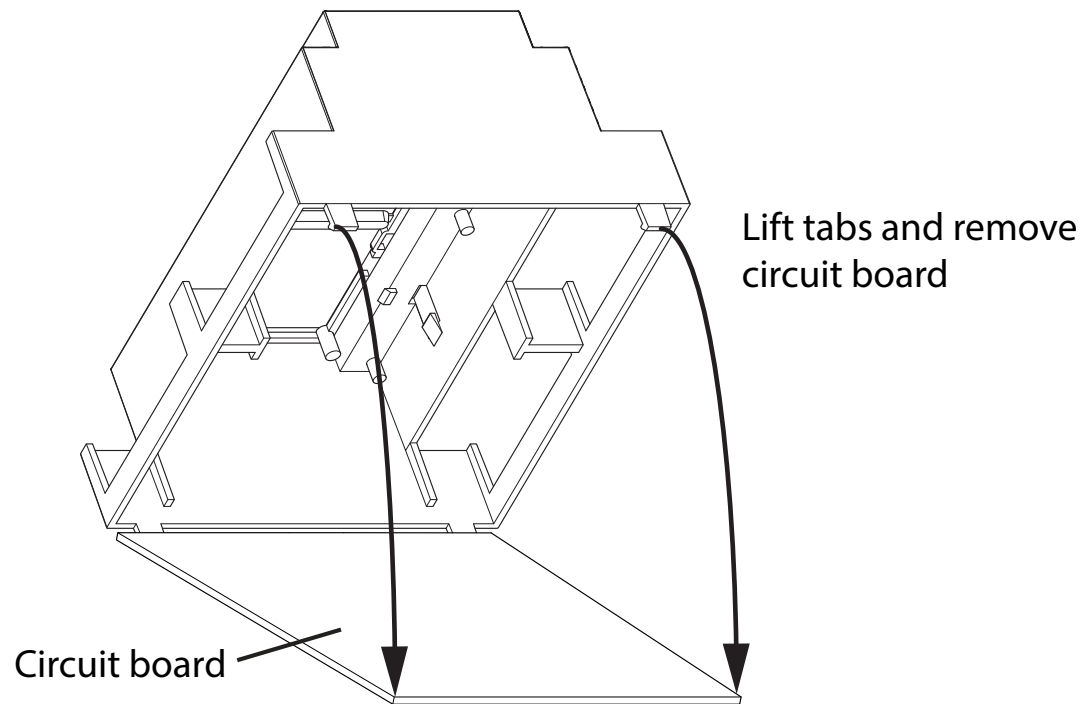

Figure 3 Lift tabs and remove circuit board
2. Hold the circuit board with one hand, and with the other hand lift the tabs so that you can remove the circuit board from the enclosure. See Figure 3.